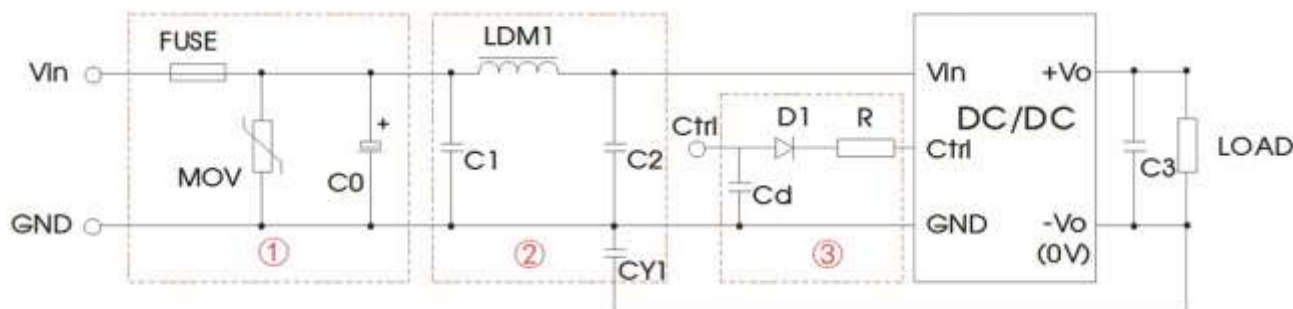

Fig. 3
RE	CISPR32/EN55032 CLASS B (see Fig. 3-② for recommended circuit)
EFT	IEC/EN61000-4-4 ±2kV (see Fig. 3-① for recommended circuit) perf. Criteria B
Surge	IEC/EN61000-4-5 line to line ±2kV (see Fig. 3-① for recommended circuit) perf. Criteria B
① For EMC tests we use Part ① in Fig. 3 for Immunity and part ② for emissions test. Selecting based on needs.
② V_C is the voltage of the Ctrl end relative to the GND of the input grounding; V_D is the positive-going conduction pressure drop of D1; I_C is the current flows into the Ctrl end and its value is generally 5-10mA, see Fig. 3-③ for the peripheral circuit of Ctrl end;
③ If there is no recommended parameters, no external component is required.